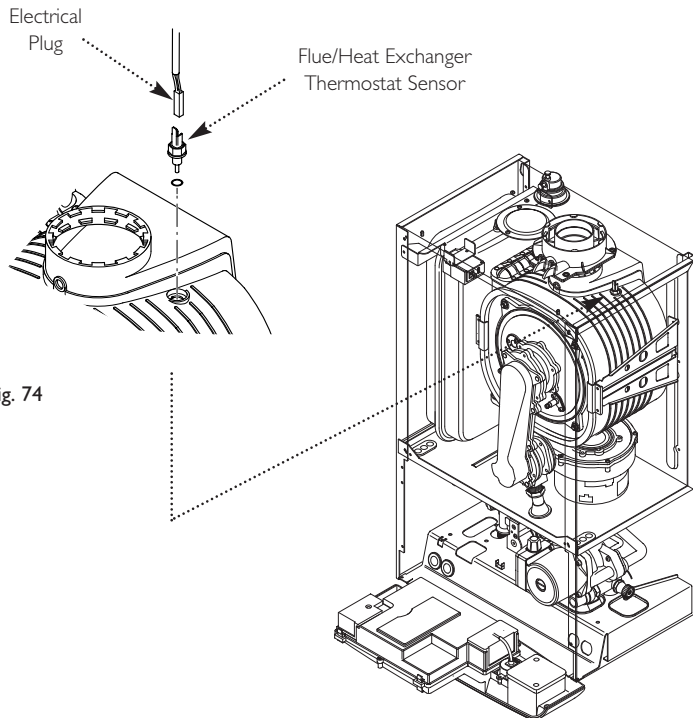

Fig. 74
14.8 Flue/Heat Exchanger Thermostat Sensor (Fig. 74)